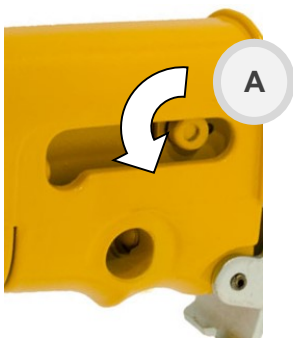

Fig. 3
- Loosen socket head screw item 1 (see fig. 3),